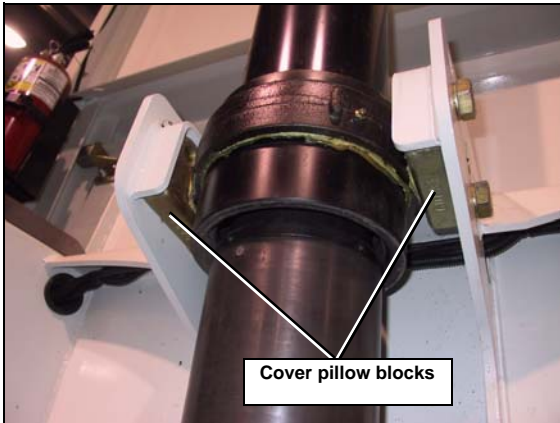

Figure 127. Cover pillow blocks
15. Lubricate the cover and the base pillowblocks (Figure 126. “Base pillow blocks” & Figure 127. “Cover pillow blocks”).